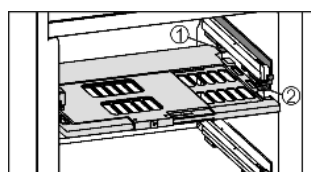

Fig. 18
- To insert the humidity control plate: Insert the cover mouldings of the plate into the rear holder Fig. 18 (1) from underneath and engage them in the holder Fig. 18 (2) at the front.